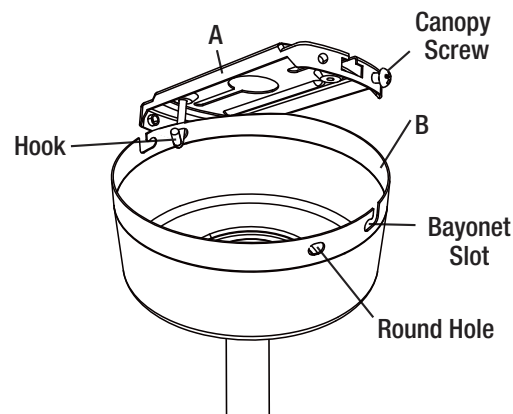

Figure 9
- Before making any electrical connections, hook one of the screw holes on the ceiling canopy (B) with the hook on the mounting bracket (A) so it hangs (Figure 9).